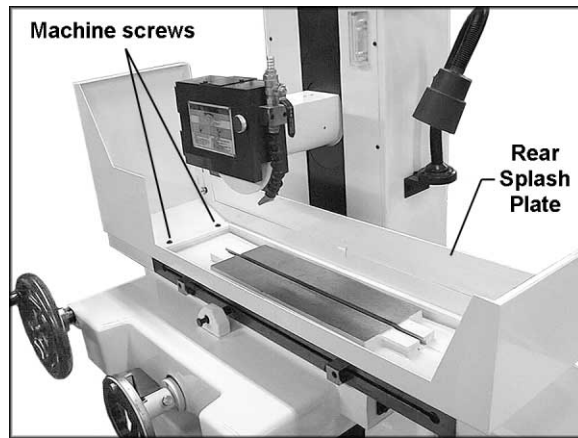

Figure 5
1. Attach the splash guard (tall side to the left) to the table, with four phillips pan head machine screws and four flat washers. See Figure 5. The rear splash plate should be secured to the splash guard with wing nuts and flat washers, and the tinted front splash plate should be installed in the tabs at the front of the splash guard.